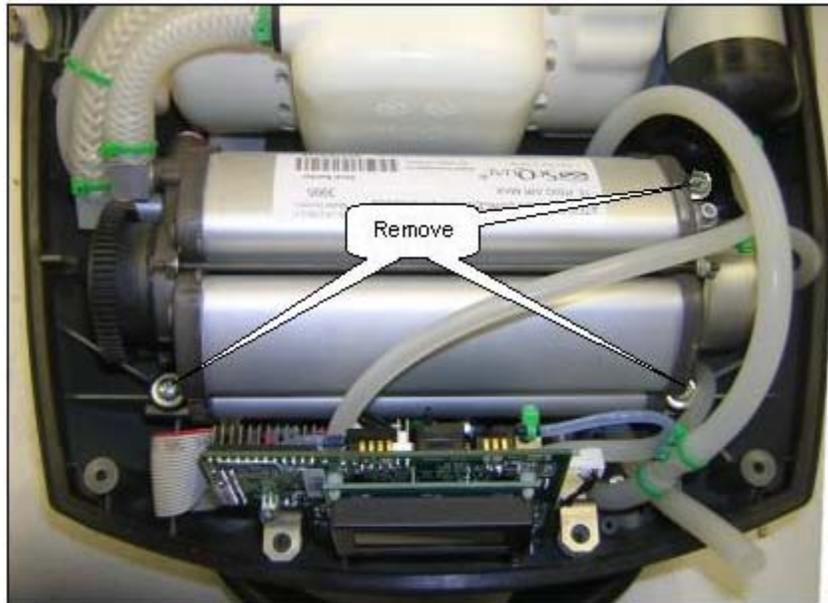

Figure 32: Remove ATF Module from Eclipse Case.
- Mount the ATF with 3 M4x16 screws and 3 washers as shown on Figure 32 above. Apply Loctite® 425 Thread Locker on the threaded tips of the screws before installing. Tighten screws but **DO NOT** squash the grommets.